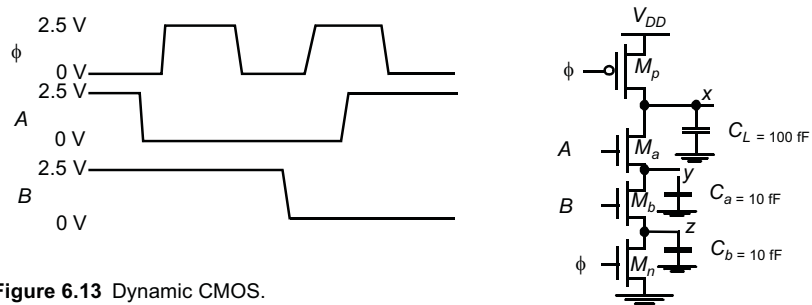

Figure 6.13 Dynamic CMOS.
- [M, None, 4.3] Sketch the waveforms at x , y , and z for the given inputs (Figure 6.13). You may approximate the time scale, but be sure to compute the voltage levels. Assume that $V_T = 0.5V$ when body effect is a factor.